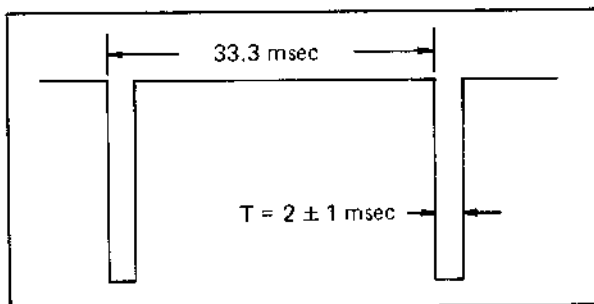

Fig. 5-20 Playback 2H monostable
3. Confirm a pulse width of 2 ± 1 msec (Fig. 5-20).